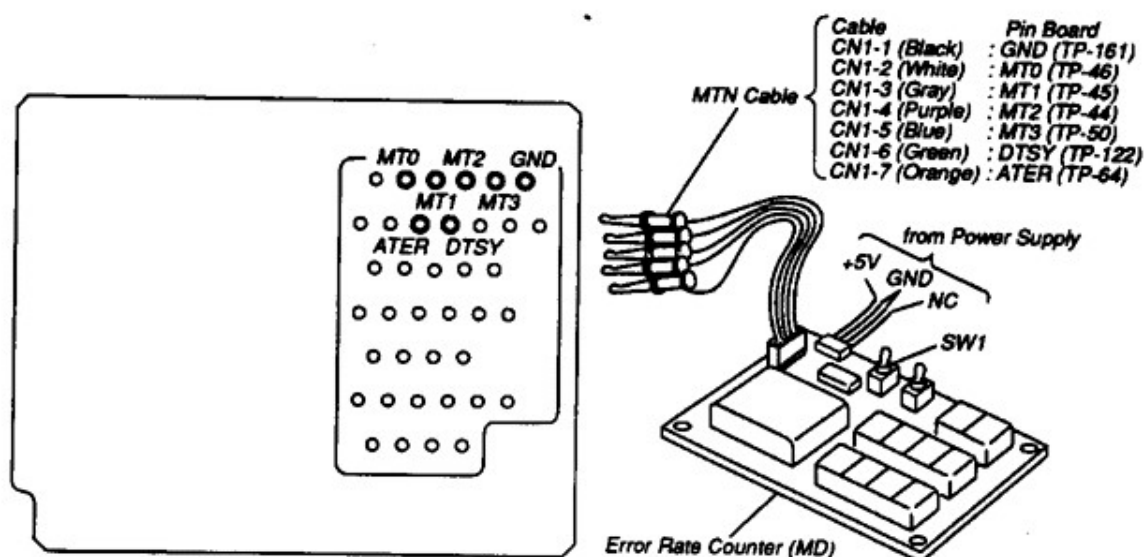

Fig. 5-2-9 Error Rate Measurement
- a. Connect Cable of Error Rate Counter as below. (Refer to Fig. 5-2-9)